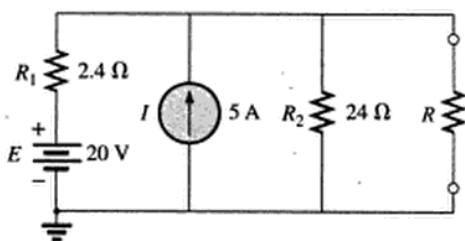

FIG. 9.140
34. a. For the network of Fig. 9.140, determine the value of R for maximum power to R .